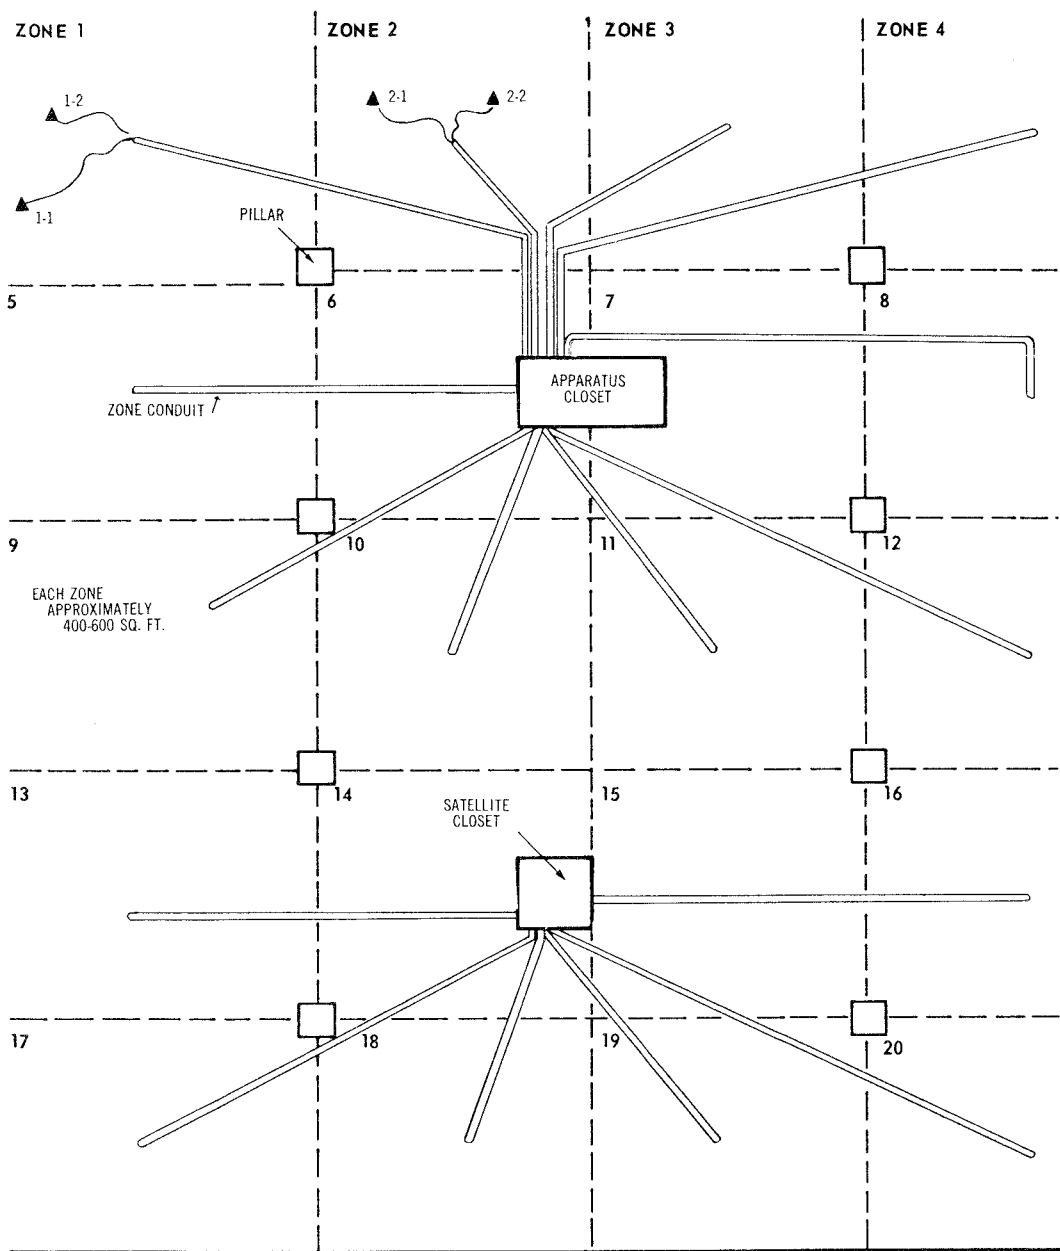

Fig. 12 — Typical Zone Layout Hung Ceiling System
9.01 The floor area to be served shall be divided into telephone zones consisting of not more than 400 to 600 square feet. (See Fig. 12).
9.02 To feed the telephone zone, the building will usually have a continuous length of 2-inch conduit in the ceiling space, properly supported to permit the pulling-in of cables. This conduit should extend from the nearest telephone terminal or apparatus closet and left open-ended at the midpoint of each telephone zone as illustrated in Fig. 12.
- (a) A number should be assigned to each zone (see Fig. 12).